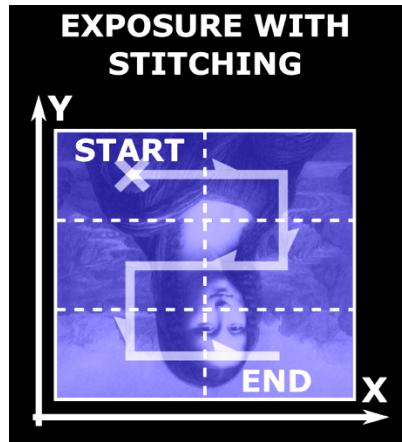

Figure 15 – Exposure principle of the “stitching mode”
That mode slices an image and sequentially expose the corresponding stack of sub-images automatically according to an optimized positioning pattern as shown in Figure 15. When the user is facing Smart Print, the lithography starts at the current coordinates with the START
- Position the substrate, thanks to the XY stage, at the starting point for a stitched lithography (START position in Figure 15). If the stage status is **XY out-of-range**, the current start position cannot be used for stitching and must be changed